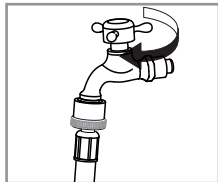

Fig. 19
- Turn off the water tap. (Fig.19)